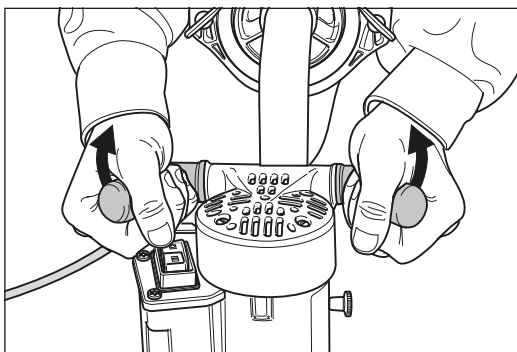

Fig. 9 Tilt the machine backwards slightly before starting and switching off the machine.
- **Always tip the machine backwards slightly (fig. 9) before switching on the machine so that the sanding disc is raised off the floor!**
- 1 **Tip the machine backwards slightly (fig. 9)!**
**Always tip the machine backwards slightly (fig. 9) before switching off the machine so that the sanding disc is raised off the floor!**
- 1 Tip the machine backwards slightly (fig. 9)!**